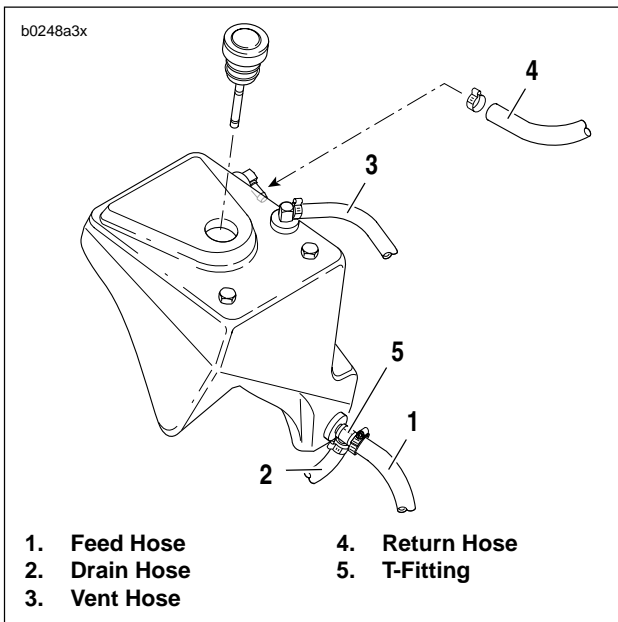

Figure 3-43. Oil Tank Hoses
See Figure 3-43. The oil tank has three fittings. From the top of the tank, the vent hose (3) and the return hose (4) run downward below the battery tray. Cable straps secure the hoses in place.